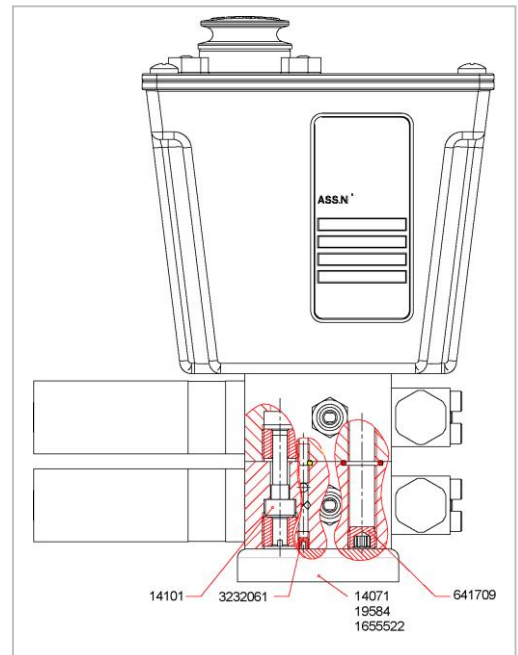

Fig. 3
4. Reattach the connections to the new base (FIGURE 3).